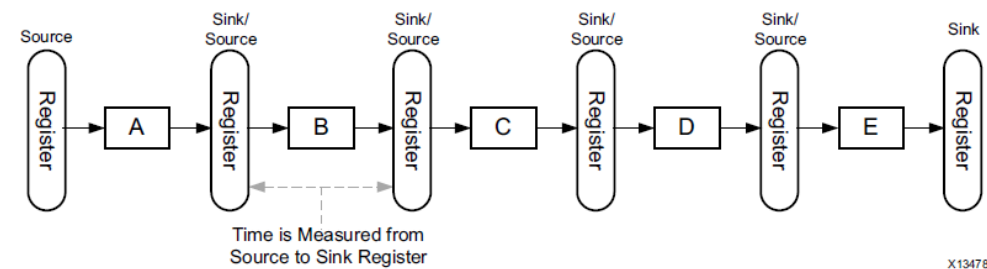

Figure 3-6: FPGA Implementation with Pipelining
- Figure 3-6 only requires 2 ns between input data samples.
- Figure 3-6 circuit implementation has higher performance, because it can accept a higher input data rate.